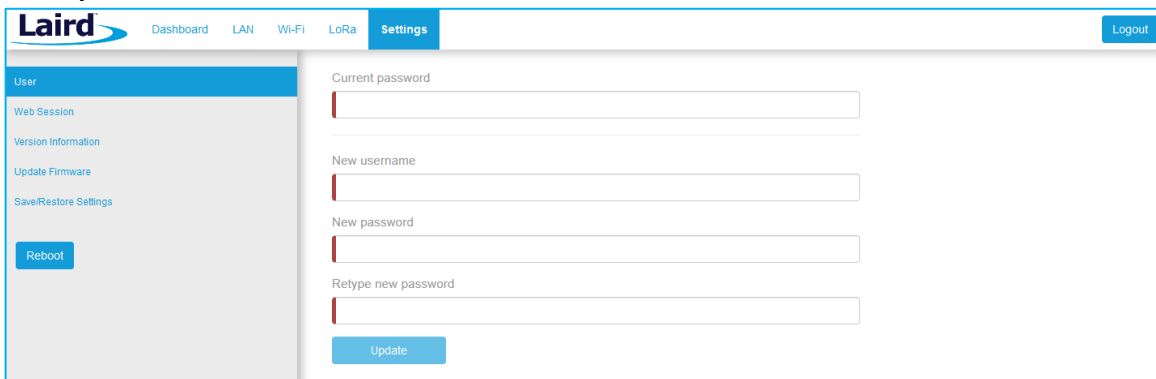

Figure 46: Change username and password
3. In the main menu, click the **Settings** tab. Then in the left menu, click the **User** tab (Figure 46). Enter the current password, and then the new desired username and password. Click **Update**.